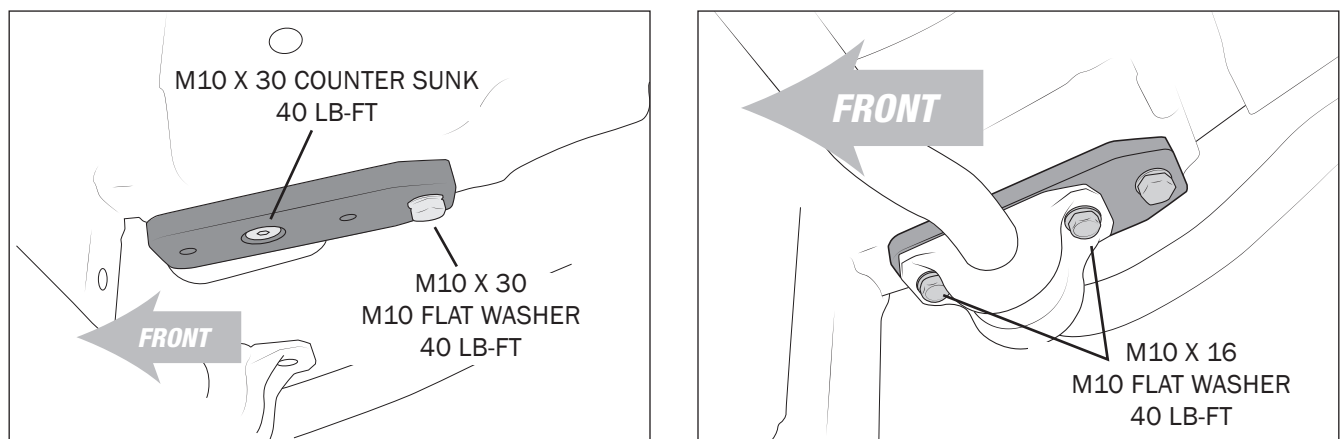

Figure 13
- 2. Install the sway bar relocation brackets using hardware bag #3 (fig. 13).
- b. Install one side at a time and torque all fasteners (fig. 13).